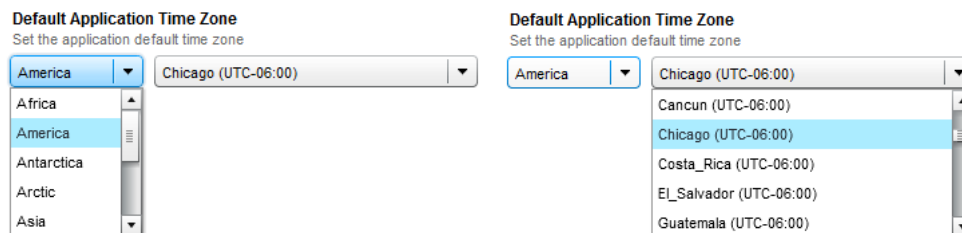

FIG. 350 Default System Timezone drop-down menu
2. Under **Default System Timezone**, select the desired application default time zone from the drop-down menus (FIG. 350):
3. Under **Default Application Locale**, select the desired application default language setting from the drop-down menus (FIG. 350):